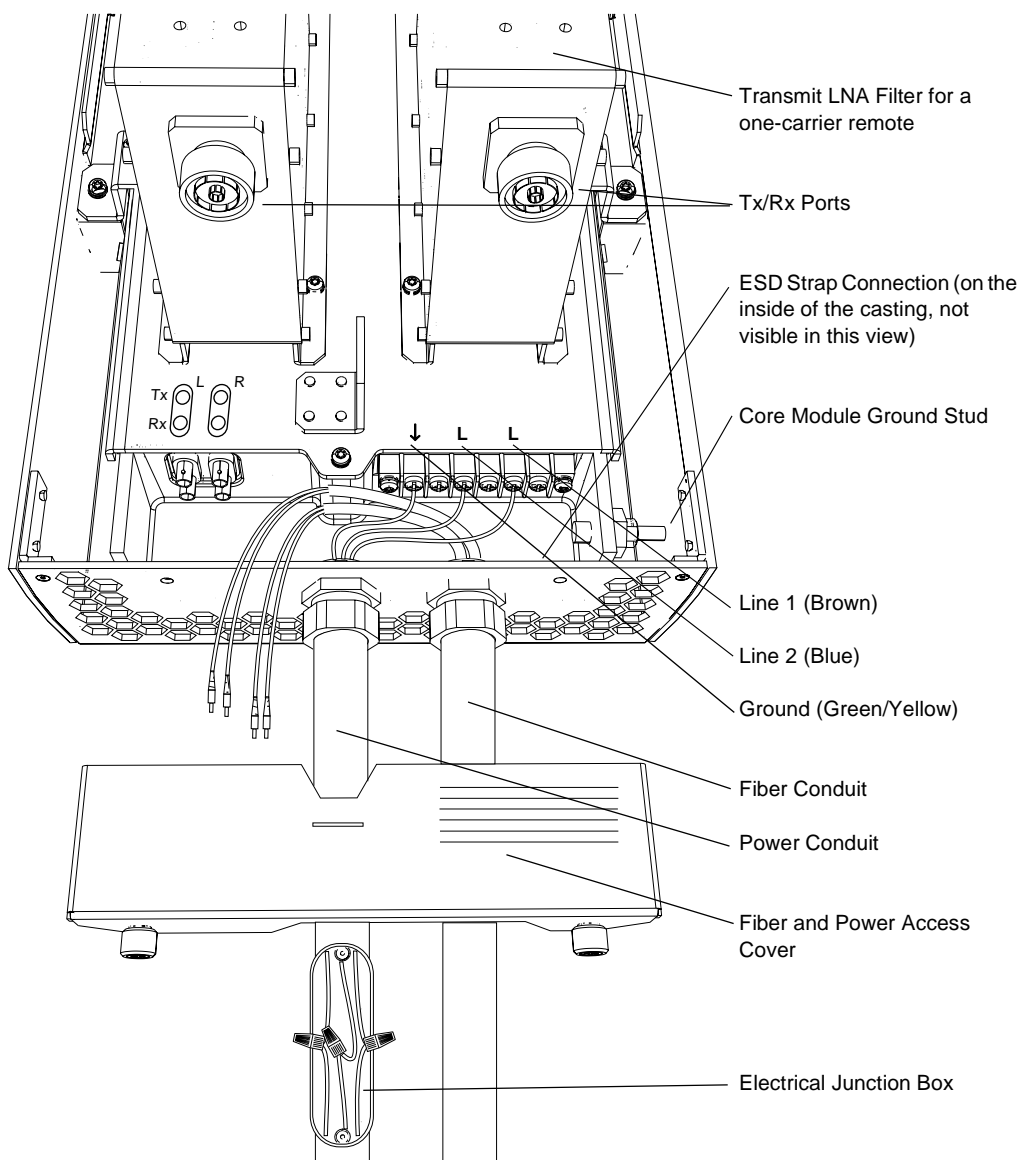

Figure 3-4 Connecting the Ground Cable and RF Jumpers
- Connect the ground jumper to the core module ground stud shown in Figure 3-4 (35–40 in-lbs (400–450 N-cm) maximum torque recommended).